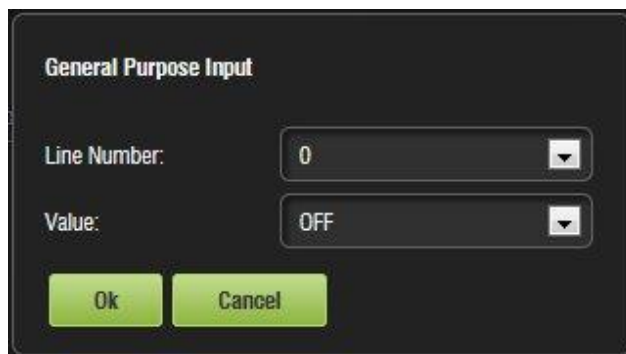

Figure 151: General Purpose Input Setup Window
- The following window will appear (Figure 151):